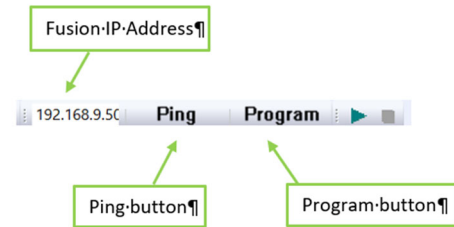
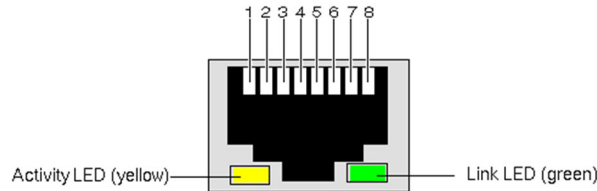

Figure 87 - Programming Toolbar
Figure 93 - Ethernet Port LEDs
- When the cable is properly connected, the green Link LED on the Ethernet ports (Figure 93) of both the computer and the Fusion device is either solid or flashing. Clicking “Ping” in Interlock Builder (Figure 87) causes this LED to flash when there is a good connection.